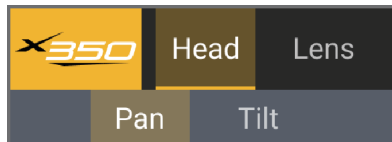

Figure 38 - The Head Tab, with the Pan Axis Tab Selected
- Head tab** — Includes sub-tabs for the **Pan** and **Tilt** axes (**Figure 38**).